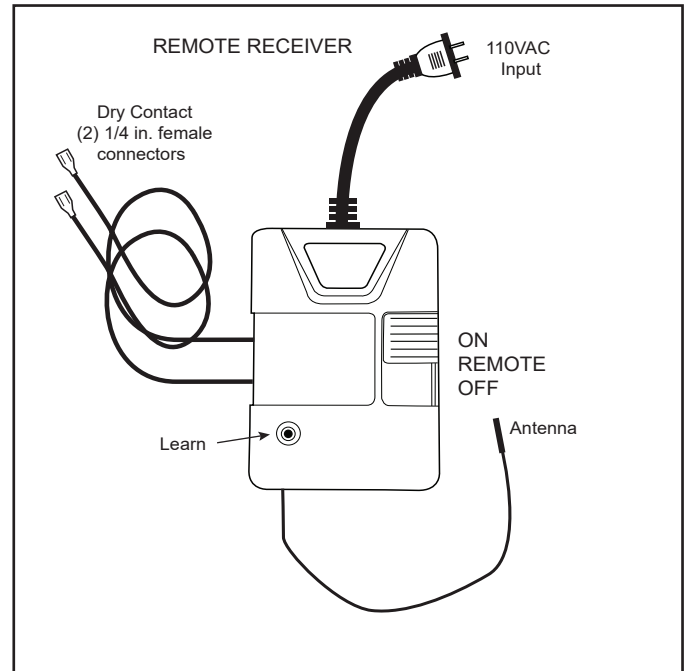

Figure 3.6 Remote Receiver
- Slide the switch to the REMOTE position. See Figure 3.6.